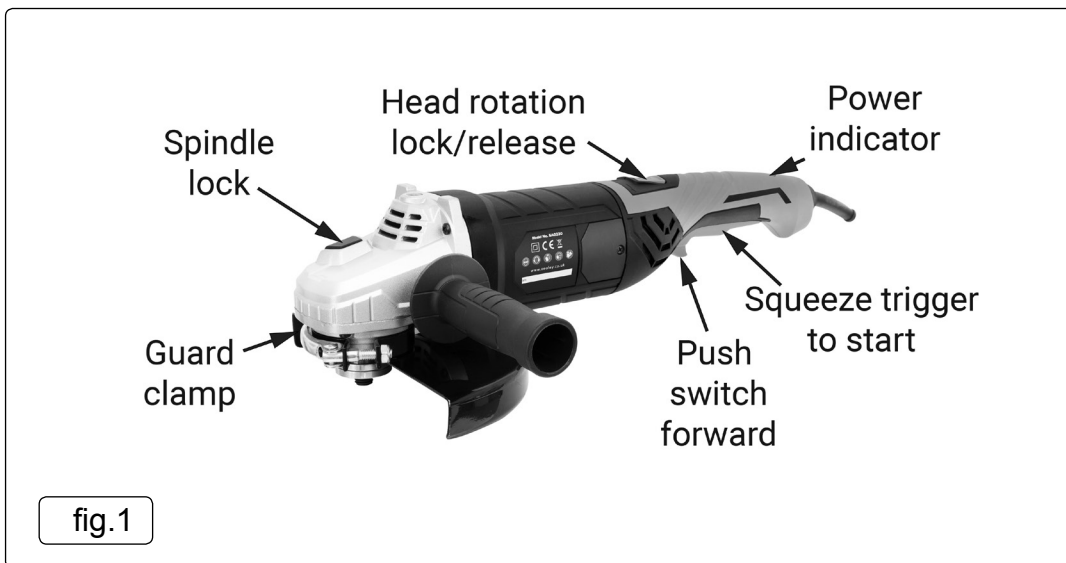

fig.1
- 4.2.6. Stop the spindle from turning by pushing in and holding down the spindle lock button (fig.1).
5.2. ON/OFF CONTROL (fig.1)
5.2.2. Once plugged into the power supply start the grinder by pushing the switch (fig.1) forward and simultaneously squeezing the trigger.
- 5.3.1. To rotate the grinding head to any orthogonal position (0° , 90° , 180° , 270°) depress the locking switch (fig.1) and twist the head to the required position. Ensure it is fully engaged in place before turning the power on.